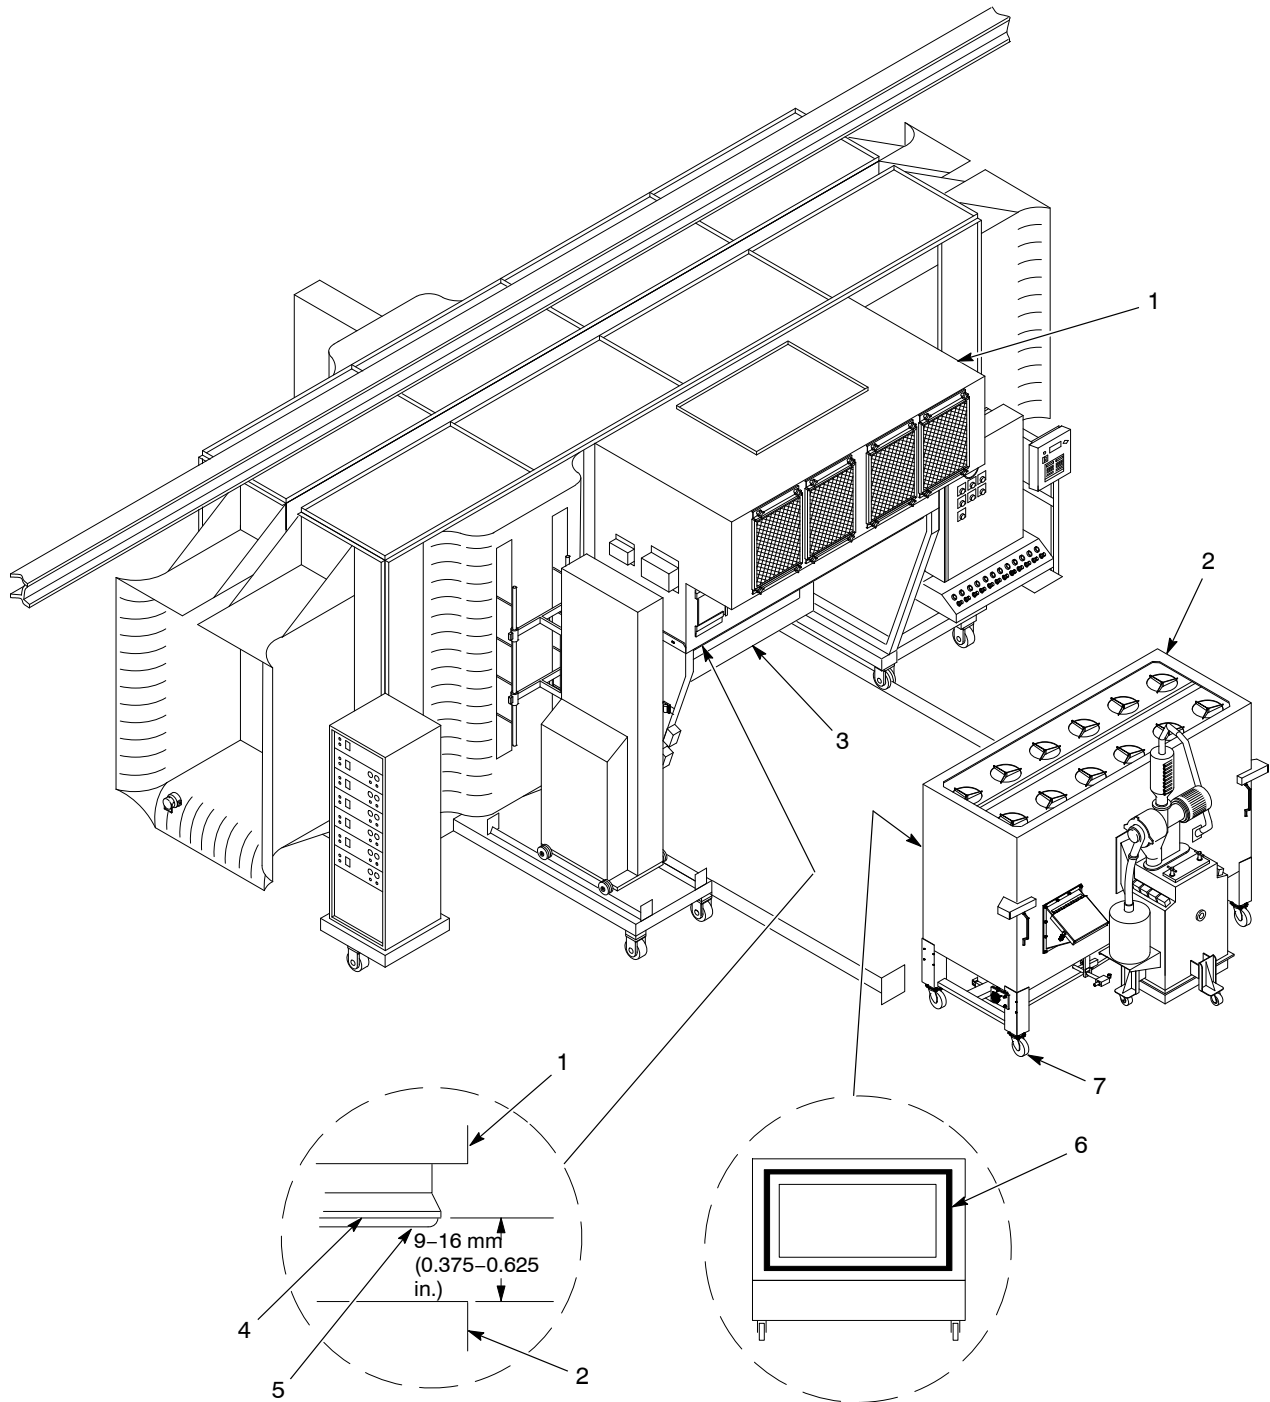

Figure 3-5 Installing a New Color Module and Feed Hopper; Steps 1-5 (2003 and later system shown)
1. See Figure 3-5. Thoroughly clean the powder off the inlet frame (3) and surrounding area.
2. Inspect and clean the interior of the fan section (1). Check the pneumatic seal (5), and replace it if it is damaged.
3. Remove the storage cover from the new color module (2). Inspect the module D-gasket (6) and replace it if it is damaged.
5. Adjust the color module height and level it as necessary. Leave a 9–16 mm (0.375–0.625 in.) gap, equal on all sides, between the bottom of the pneumatic seal track (4) and the top of the color module (2). The gap allows the seal to expand when it is inflated. Powder will escape into the spray room if the gap is wider than 16 mm (0.625 in.).
6. See Figure 3-5. Hook the clamping straps (14) to the color module (3). Tighten the ratchets (15) to pull the color module against the stops and compress the D-gasket against the inlet frame. This must also close the limit switch on the inlet frame.
7. Use the seal control valve (16) to inflate the pneumatic seal (1). Make sure it is sealing on all four sides of the color module.
8. Connect the quick-disconnect plates (2) to the color module.
9. Connect the 10-tube connectors (8) to the receptacles on the feed hopper.
10. Install the level sensor (9) into the mounting on the feed hopper.
11. Make sure the accumulator (4) vent hose is connected to the vent-assist plate (6), and that the vent-assist air tubing is connected to the tube fitting.
12. Connect the sieve electrical cables to the junction boxes (12) on the fan section support.
13. Disconnect the old feed hoses (13) from the guns. Install new feed hoses between the powder pumps (10) and the guns, or use hoses that have already been used with the new color.
14. Make sure the transfer hoses (7) are connected to the accumulator and transfer pumps (5).